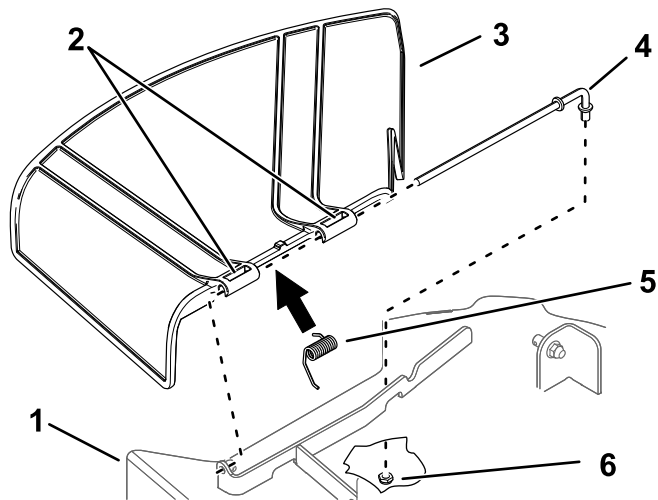

Figure 75
- Remove the nut (3/8 inch) from the rod under the mower (Figure 75).
- Slide the rod out of the deck bracket, spring, and grass deflector (Figure 75).
4. Install the new grass deflector (Figure 75).
7. Slide the rod through the second grass-deflector pivot (Figure 75).
9. Secure the rear end of the rod into the mower with a nut (3/8 inch) as shown in Figure 75.